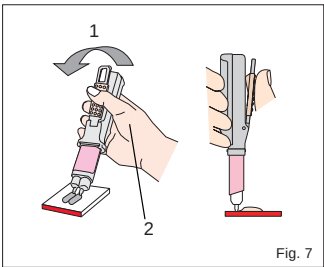

Fig. 7
c) While depressing the lever, level and cut off the extruded material from the tips of the cartridge by moving the cartridge and dispenser to an upright position on the mixing pad. (Fig. 7)